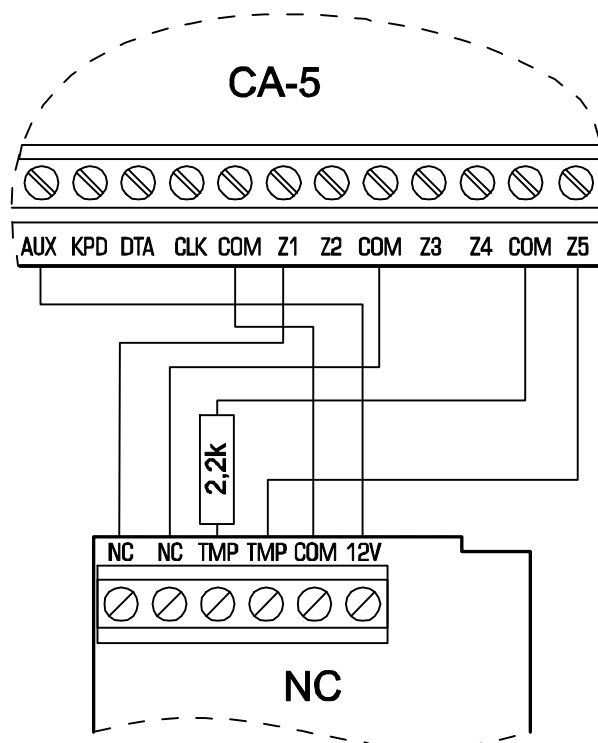

Fig. 6. Example of connecting NC type detector to control panel (NO type detector is to be connected in the same way).
- For figures 6, 7 and 8 it is assumed that the zone no. 5 is a tamper line (default setting: 24H TAMPER, EOL line), enclosure tamper switch: NC type.